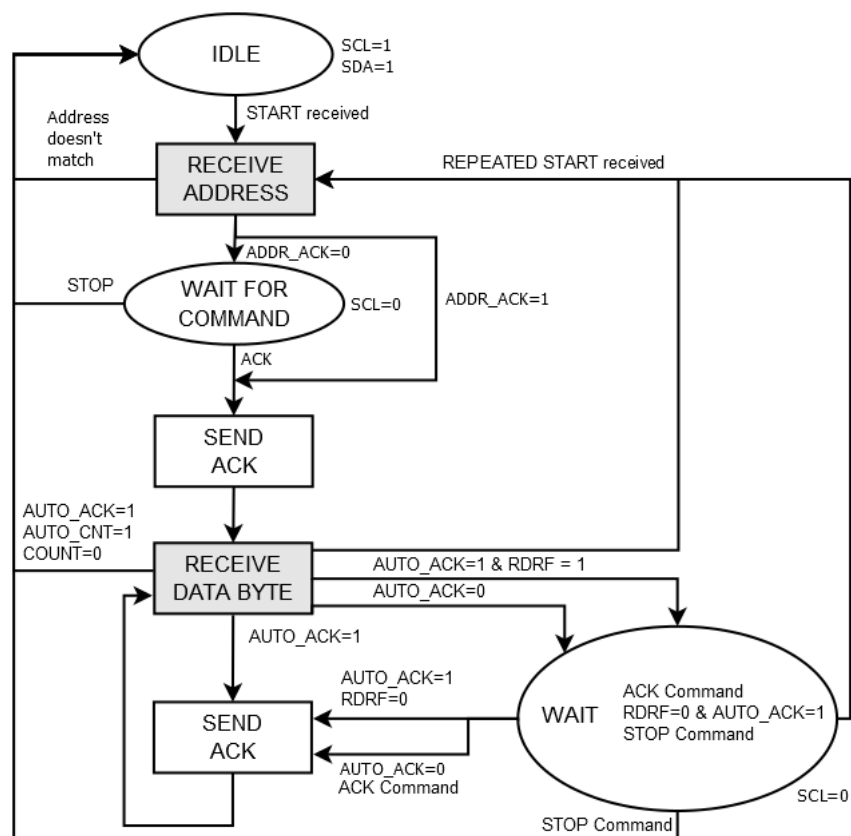
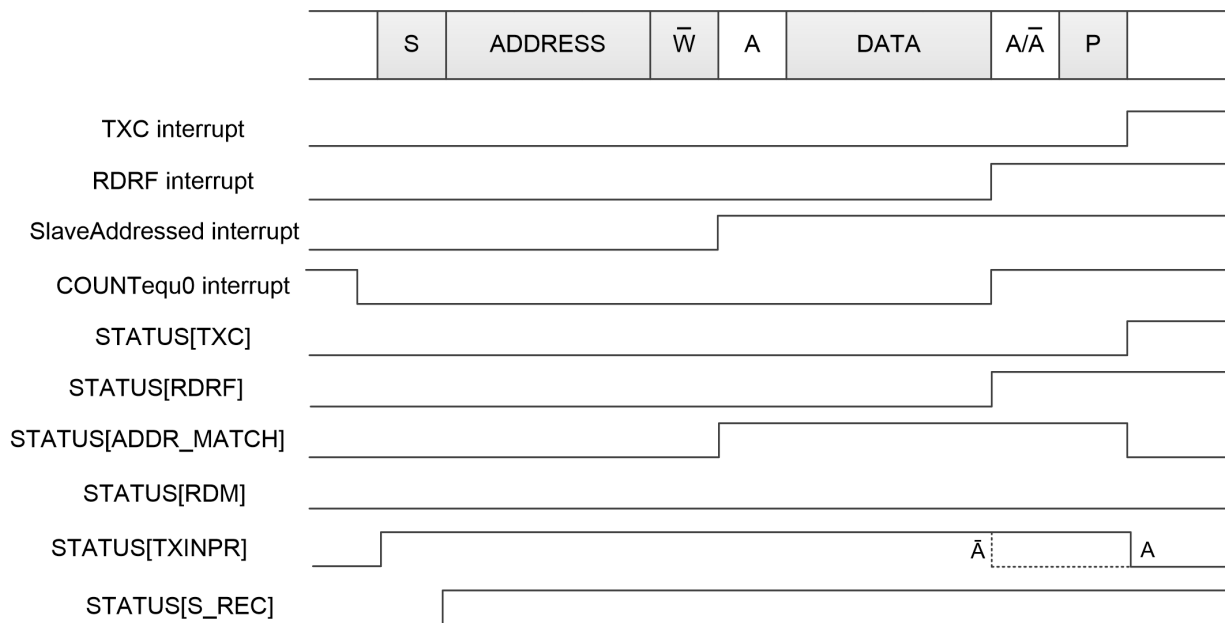
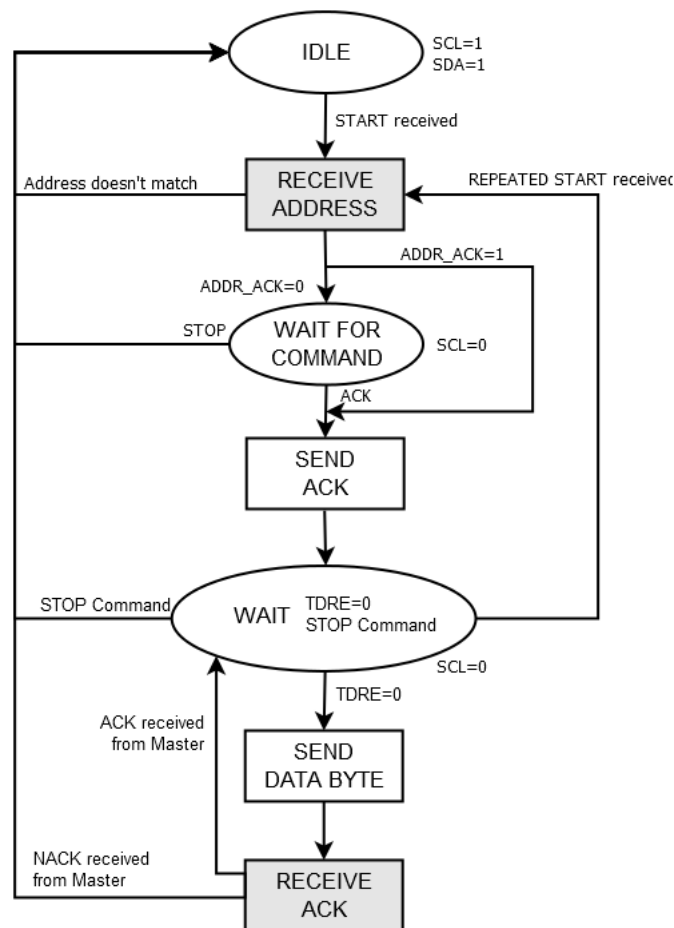
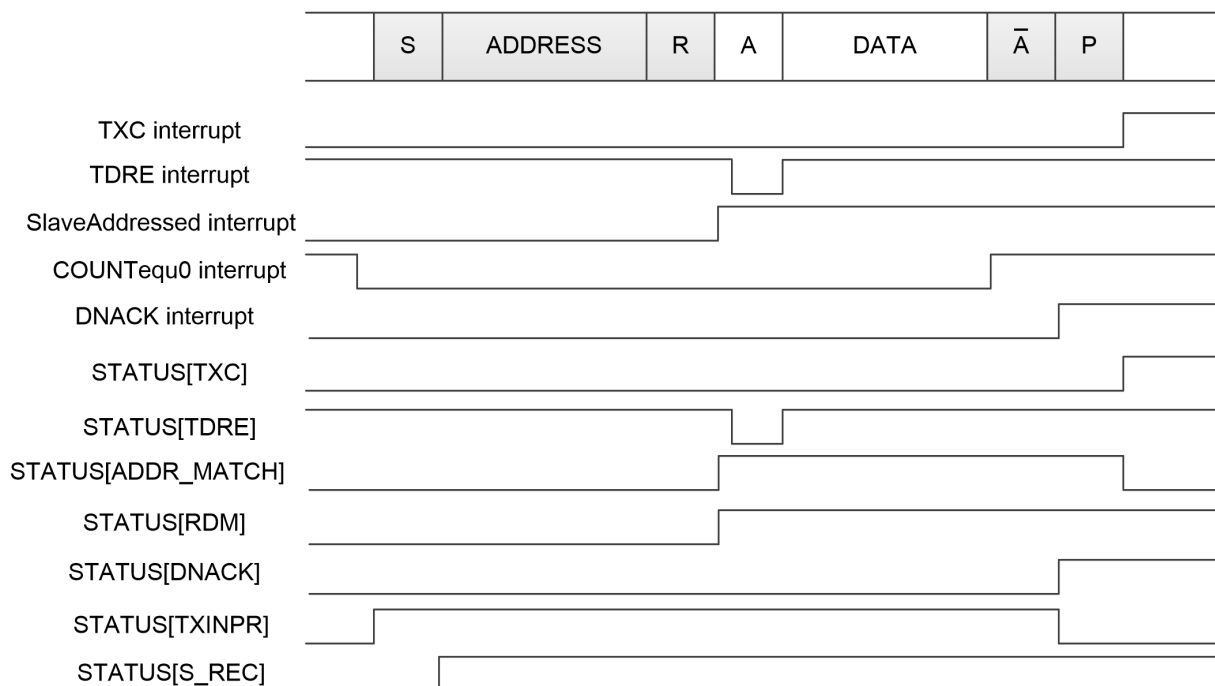

Figure 1.9. Slave reception algorithm.
Figure 1.10. Reception of a single byte of data (ADDR_ACK = 1, AUTO_ACK = 1, AUTO_CNT = 1).
Figure 1.13. Slave data transmission algorithm.
Figure 1.14. Send a single byte of data
ACK The ACK command has a different meaning, depending on the configuration of the module and its current state (Figure 1.9, Figure 1.13). At the address sending stage, when automatic address acknowledge is disabled ($\text{ADDR_ACK} = 0$), ACK command is used to trigger sending of ACK bit to the Master. At the data transfer stage (Slave reception mode), when automatic data acknowledge is disabled ($\text{AUTO_ACK} = 0$), ACK command is used to send ACK bit to the Master. In all other cases, ACK command has no effect.
Figure 1.9 shows a status diagram for the slave reception operation, including possible module configuration variants, and Figure 1.10 shows how the transmission status is reported when receiving a single byte.
Address reception After configuration, module monitors SDA and SCL inputs to detect start condition. When start condition is detected (indicated in Status (1.7.2) Register), Slave module receives address byte and compares it to addresses set in the Address (1.7.8) Register (1.7.8). If matching address is detected (Figure 1.10), module indicates this fact through Slave Addressed interrupt. If ADDR_ACK = 1, Slave responds by sending ACK bit (Figure 1.9). Otherwise module awaits for ACK or STOP command from the firmware. If received address doesn't match, module releases the bus (and thus effectively sends NACK).
Receiving data As soon as Slave acknowledges receipt of the address, Master starts transmitting the first byte of the data. The reception is signaled by setting the RDRF bit in the Status (Figure 1.14) Register. The next actions of the module depend on the configuration of the automatic data transmission modes:
Figure 1.13 represents a status diagram for Slave transmission, while Figure 1.14 shows how transmission status is reported when transmitting a single byte.
Address reception After configuration, module monitors SDA and SCL inputs to detect start condition. When start condition is detected (indicated in Status (1.7.2) Register), Slave module receives address byte and compares it to addresses set in the Address (1.7.8) Register. If matching address is detected (Figure 1.14), module indicates this fact through Slave Addressed interrupt. If ADDR_ACK = 1, Slave responds by sending ACK bit (Figure 1.13). Otherwise module awaits for ACK or STOP command from the firmware. If the received address doesn't match, module releases the bus (and thus effectively sends NACK). There's no indication (other than the START bit in Status Register) of the address mismatch.
Data Transmission After acknowledging received address, module awaits data bytes to be written into the TDR (1.7.9) register. Throughout this time, SCL line is held in a low state, to prevent the master from starting byte reception. This fact is indicated by SCL HOLD bit being set in Status (1.7.2) Register. Once the data is saved to the TDR register (Figure 1.14), it is transmitted immediately. At the same time, the TDR register is emptied so that another data byte can be written. Module then increments (or decrements) the Count Register and waits for the ACK bit from the Master device. The received ACK/NACK bit is reported in the Status Register (Figure 1.14). If the ACK bit (0) is received, the controller waits for the next data byte to be written to the TDR register (1.7.9). If the NACK bit (1) is received (1), the module will release the bus (by setting high level on SCL and SDA outputs) and wait for Start or Stop bit.